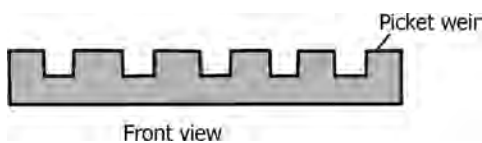

FIGURE 16.7 Picket weir.
- Figure 16.7 illustrates schematic of a picket weir.